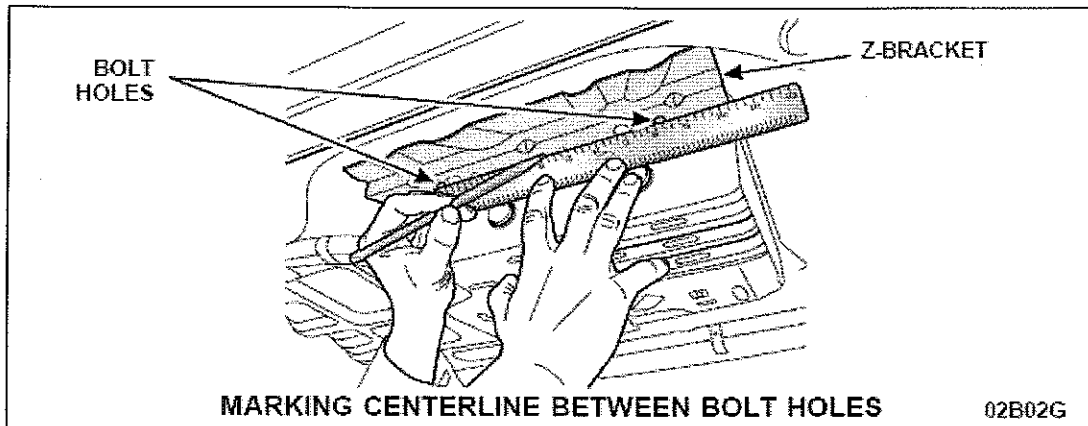

FIGURE 7
9. Using a straightedge, draw a line indicating the centerline connecting the (2) two bolt holes. Then, measuring from the edge of either of the two bolt holes, mark the centerline at 50 mm (2-in), 101 mm (4-in) and at 152 mm (6-in). See Figure 7.